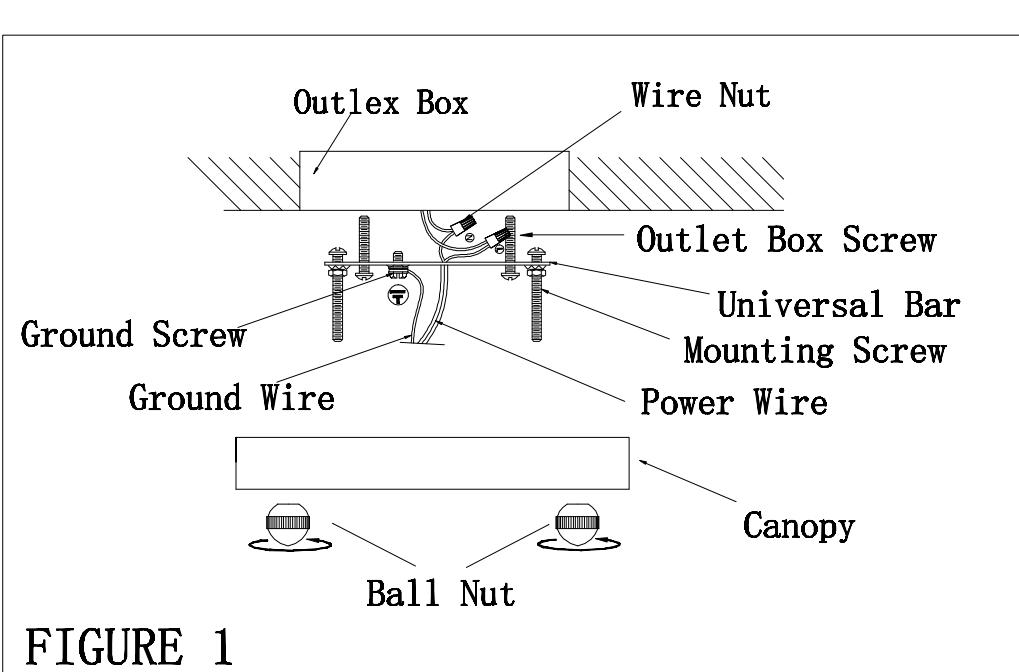

FIGURE 1
2. Remove the Ball Nuts(B) under the Canopy from the Mounting Screws(E), and take out the Universal Bar(D). Attach the Universal Bar(D) to the Outlet Box by using two Outlet Box Screws(H). (See Figure1)
3. Adjust the length of the wire needed for your installation, remove excess. Install the ground wire in the Universal Bar(D) with the supplied Green Ground Screw(F).
5. After the wires are connected, tuck them carefully inside the Outlet Box. Attach the Ceiling Assembly(A) to the Mounting Screws(E) and secure with two Ball Nuts(B). (See Figure 1)
6. If you want to adjust the wire height, please loosen the plastic screws (C). Please secure well after adjust the wire.